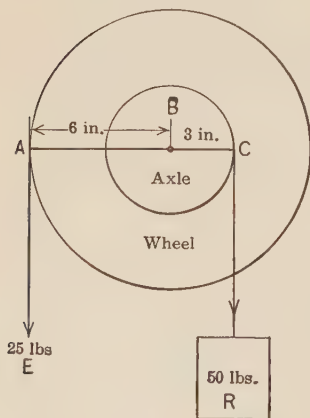

FIG. 257. — Use this diagram to explain how the wheel and axle is in principle a continuously acting lever.
331. Wheel and axle. In the ice-cream freezer, the clothes wringer, egg beater, bread mixer, churn, emery knife sharpener, and windlass, we apply effort in the path of a large circle or at the circumference of a wheel while the resistance is applied at the circumference of an axle. A machine of this type differs in no respect from a lever in principle; in fact, it is a continuous-acting lever, as may be seen from Fig. 257. Let B be the center of both axle and wheel, A is the point of application of the effort (E) on the wheel, and C the point of